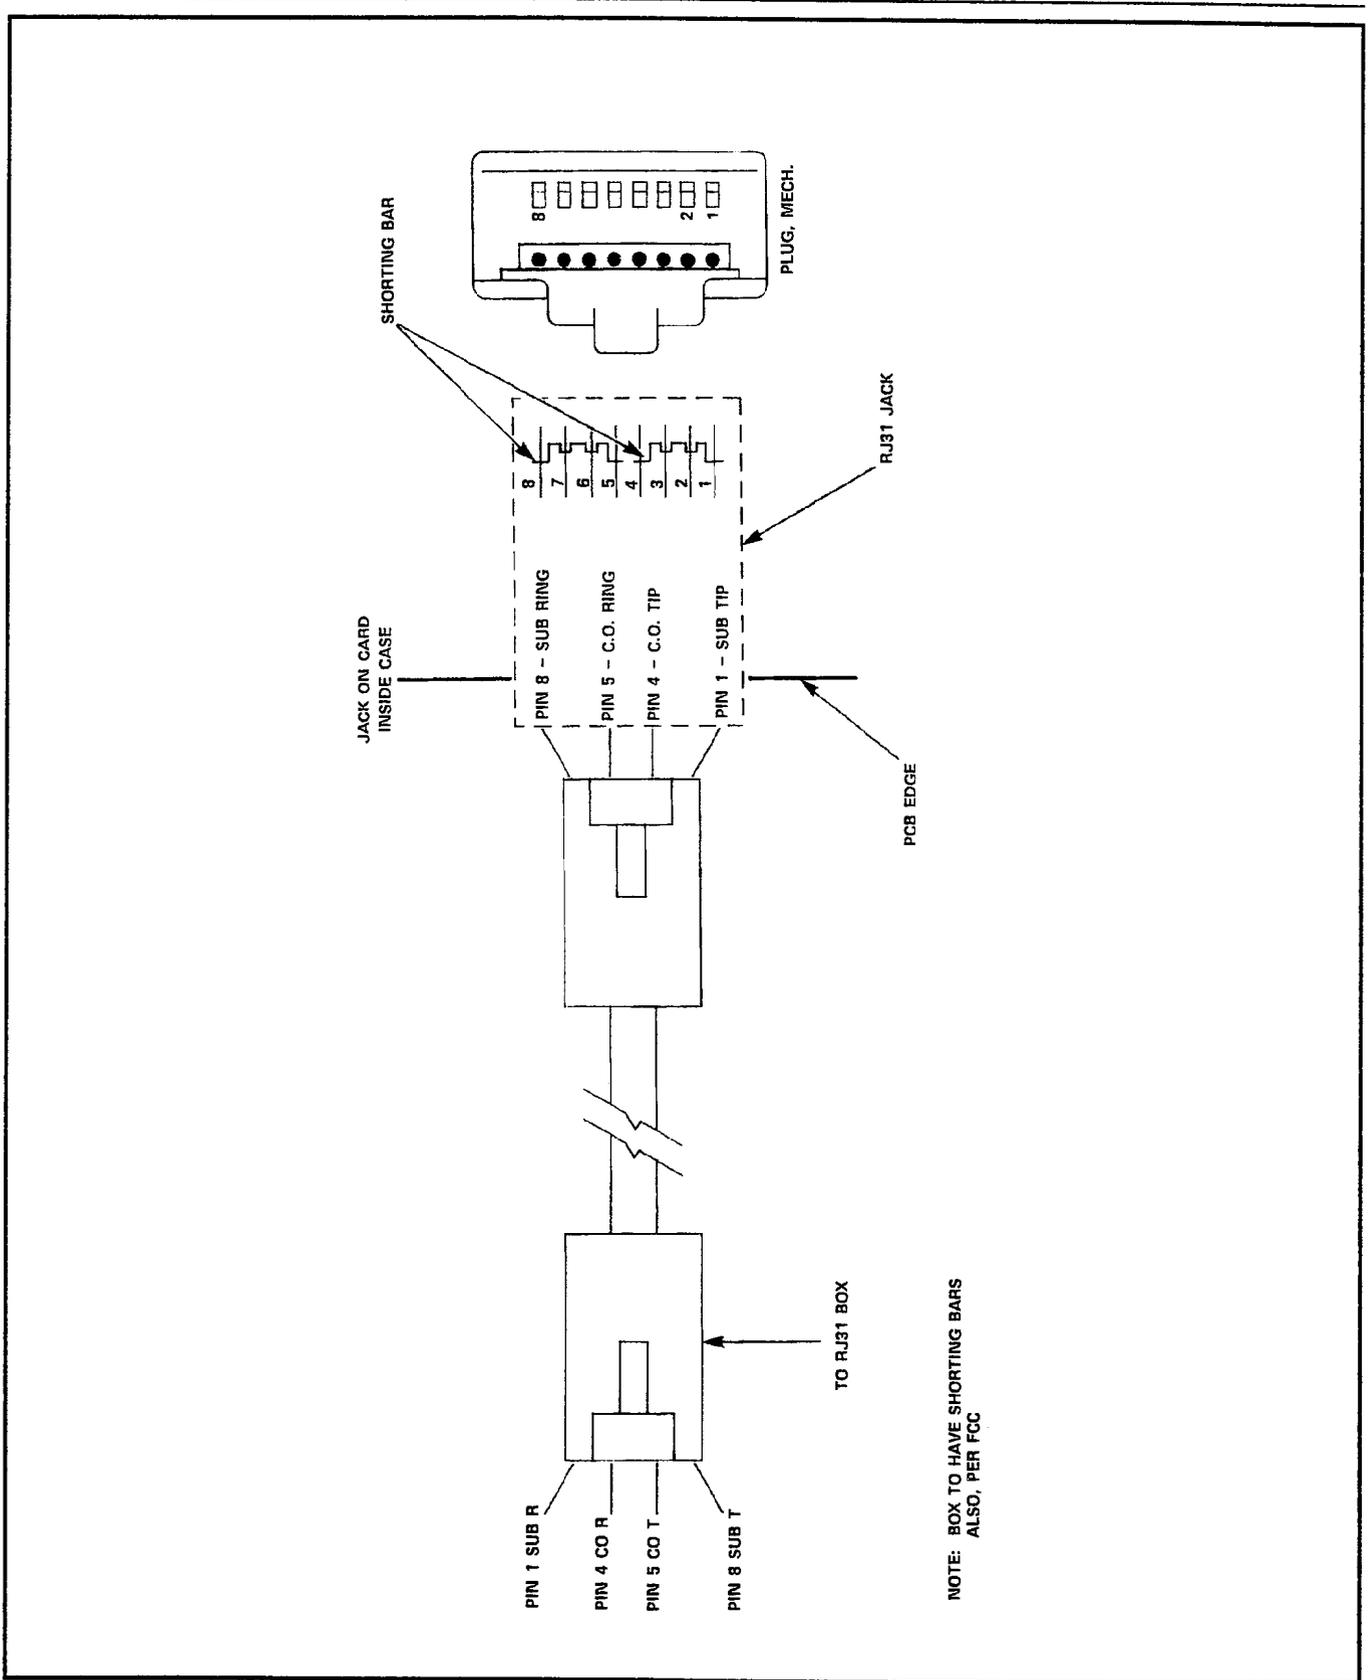

FIGURE 4: USOCRJ31X JACK AND CABLE ASSY.
4.03 Each trunk of the Dialer is connected in series with the Tip and Ring leads of a standard loop start or ground start, DTMF or rotary telephone line (refer to Figure 4 on Page 9). This line can be connected between: